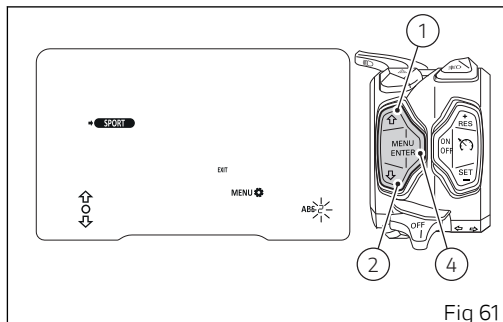
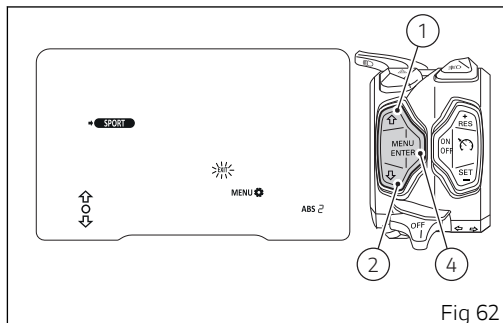

Fig 61
Fig 62
When entering the function, the ABS value starts flashing (Fig 61). Use buttons (1) and (2) to set required value, which can be 1 to 3 or "OFF", i.e. ABS disabled. To confirm, press the button (4). The instrument panel displays the new set level and "EXIT" flashing (Fig 62). Now press button (4) to go back to previous display mode.